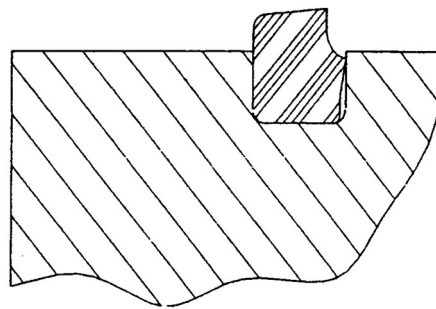
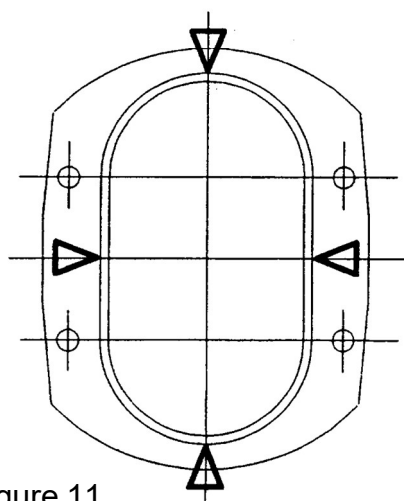

Figure 10
Figure 11
(see Figure 10 and 11)
- a) 55 Series - Fit end cover joint ring (66) in end cover as Figure 10. Press in, in 4 places first, see Figure 11, then press in the rest to avoid forming loops.